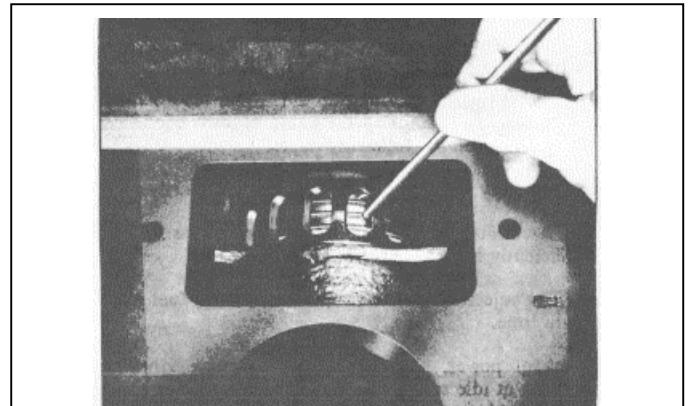

Fig. 2
- A. Piston rings may be stuck or broken. To determine the condition of the rings, remove the air box cover and inspect them by pressing on the rings with a blunt tool (Fig. 2). A broken or stuck ring will not have a "spring-like" action.